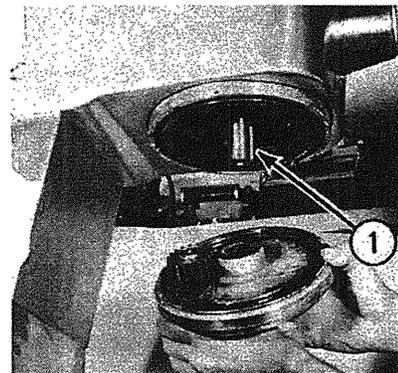

Fig. 2-4
- D. Slide the planetary from shaft. Key (1, Fig. 2-4) will remain in the shaft.